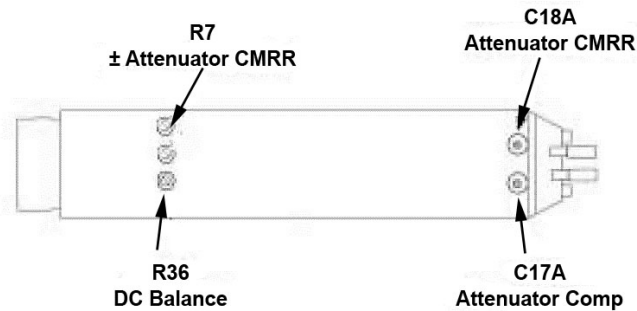

Figure 10, Probe Tip Adjustment Locations
12. Adjust \div **CMRR** (R7) for minimum amplitude. (See Figure 10 for location.)
8. Adjust **Attenuator Comp** (C17A) for a flattop waveform. See Figure 10 for adjustment location.